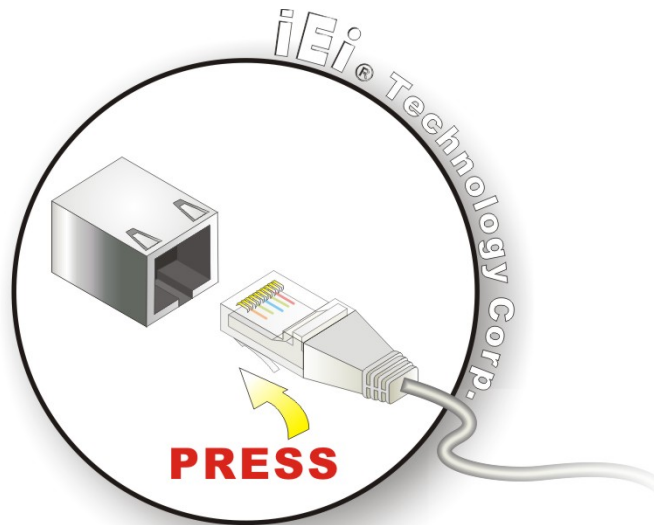

Figure 4-17: LAN Connection
Step 2: Align the connectors. Align the RJ-45 connector on the LAN cable with one of the RJ-45 connectors on the WSB-G41A. See **Figure 4-17**.